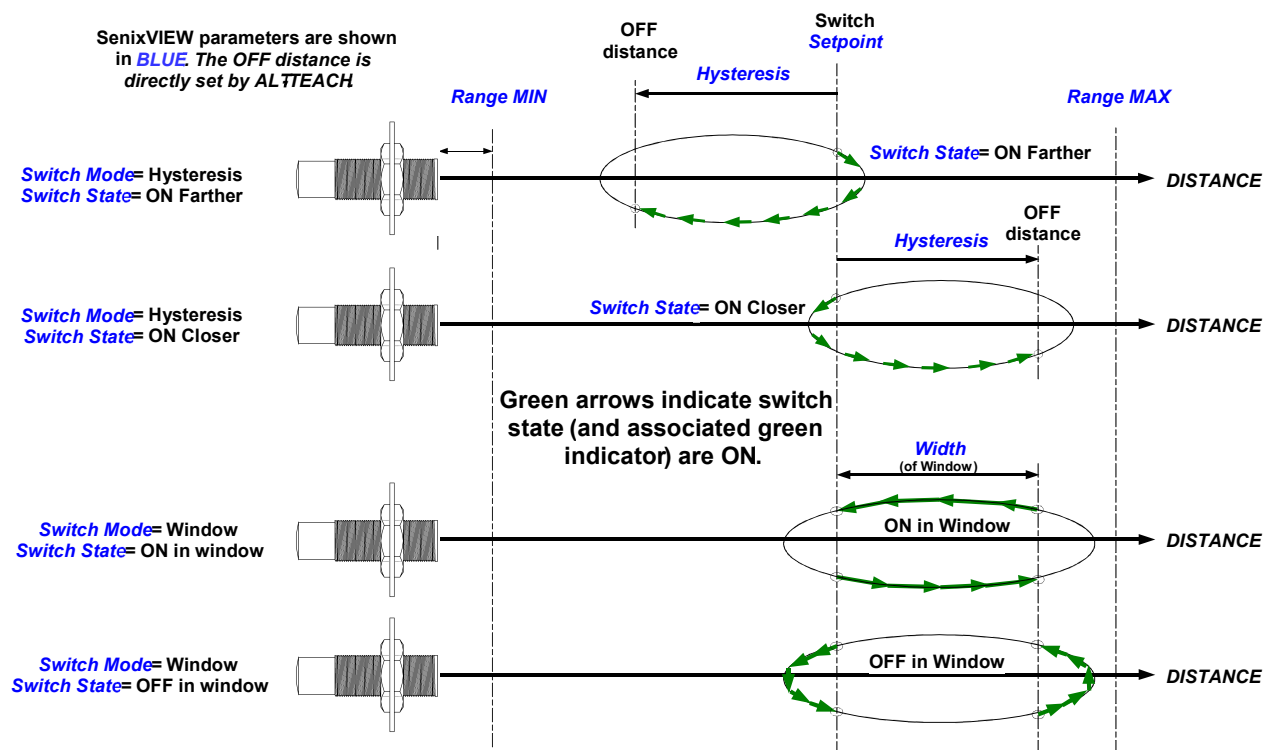

Figure 16 - Switch Hysteresis & Window Modes
- Mode = Setpoint (with Hysteresis) or Window (see Figure 16)